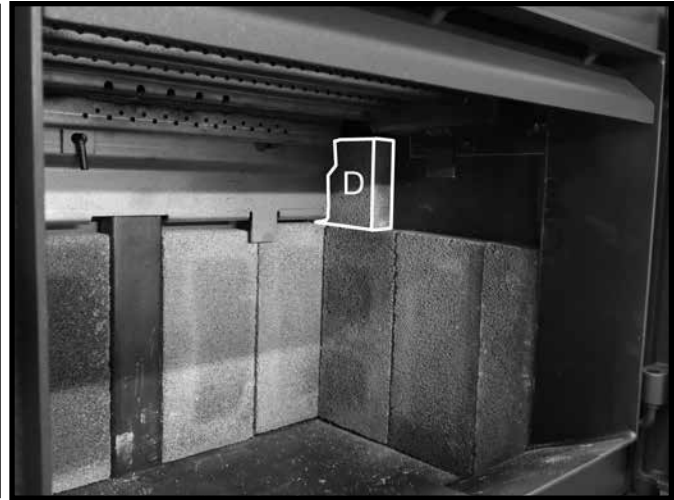

Figure 32: Small side wall firebrick in position.
6. Place a "D" firebrick on top of the previously placed "A" firebricks and slide this firebrick back toward the rear wall making sure that this firebrick tucks in behind the brick rail (Figure 32).